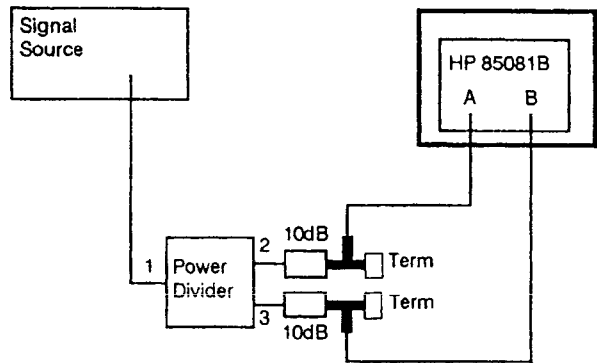

Figure 4-3. Phase Accuracy vs Frequency Test Setup
1. Configure the equipment as shown in Figure 4-3 and connect the attenuators directly to the power divider outputs. Connect the probe tees directly to the attenuators and ensure that the probes are firmly located.